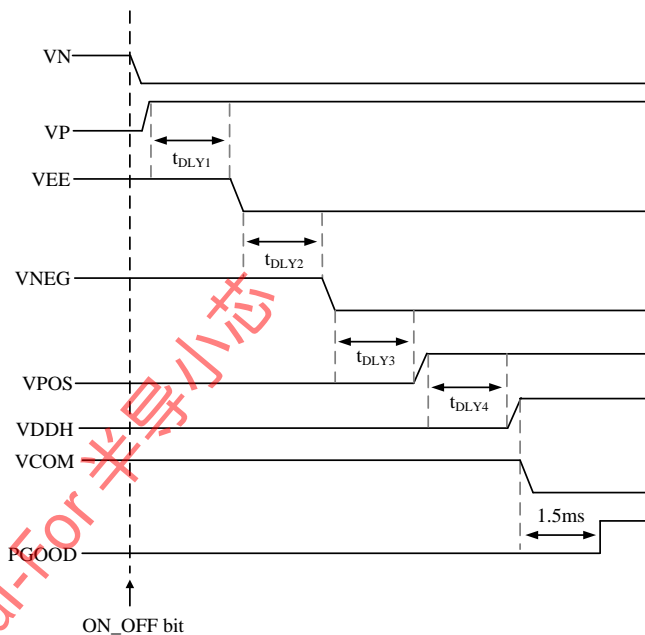

Figure 11. Power-on sequence Timing: VCOM set being auto mode.
To pull high EN pin and then set ON_OFF bit[7] at 0x00h being 1 to enable all of power rails with specific power-up sequence, as shown in Figure 11. During power on period, negative buck-boost (VN) start-up at first, and then the positive boost (VP) ramps up as VN settling. After delay time t_{DLY1} , negative charge pump (VEE) is start-up. As VEE rail settling, negative LDO rail (VNEG) will ramp up after delay time t_{DLY2} . As VNEG rail settling, positive LDO rail (VPOS) will ramp up, after delay time t_{DLY3} . Finally, positive charge pump (VDDH) is power-up after delay time t_{DLY4} .
- Auto Mode: VCOM turn-on timing follows the default sequence, and it is independent with external VCOM_EN pin, as shown in Figure 11.